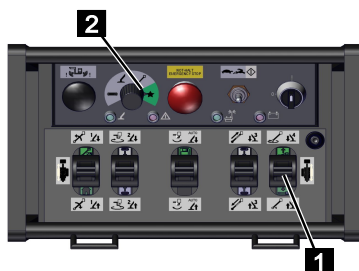

Fig. 115
2. Set the function selector to [special function] (green) (Fig.115/2).
3. Push the control lever (Fig.115/1) forwards until the profile package lifts and then stops moving again.